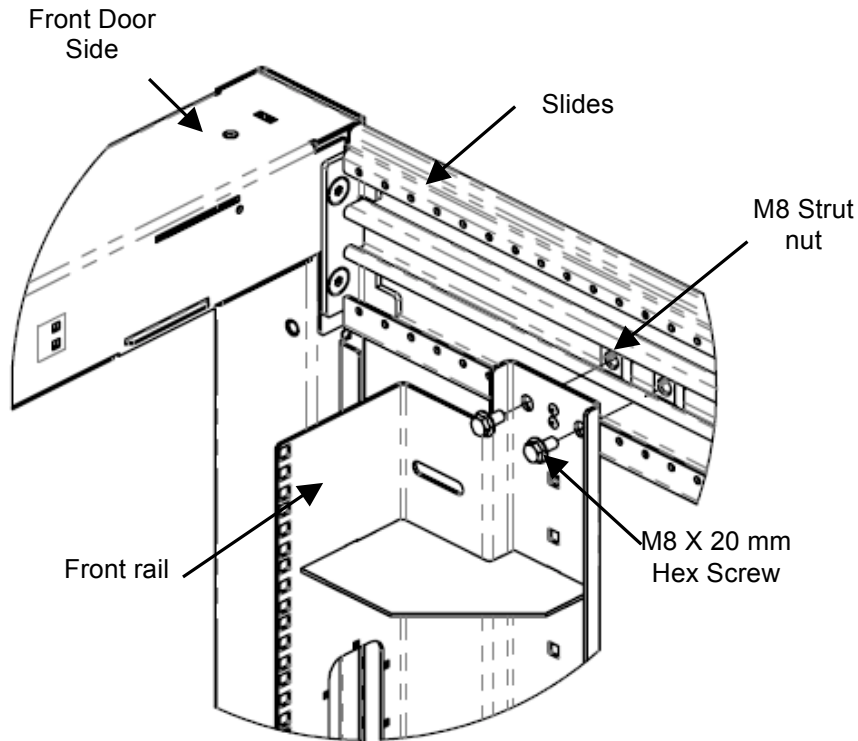

Fig. 7
3. Fasten rail using two M8 Strut nuts onto two M8X20mm Hex screws in frame slides (Fig. 7 and 8). Tighten to approximately 168 in-lbs [19 N-m].